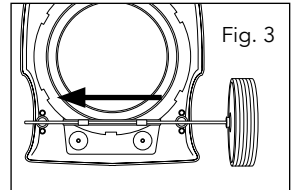

Fig. 3
3. Now slide the axle (33) through the guides provided for it on the underside of the Tank (10) (Fig. 3).